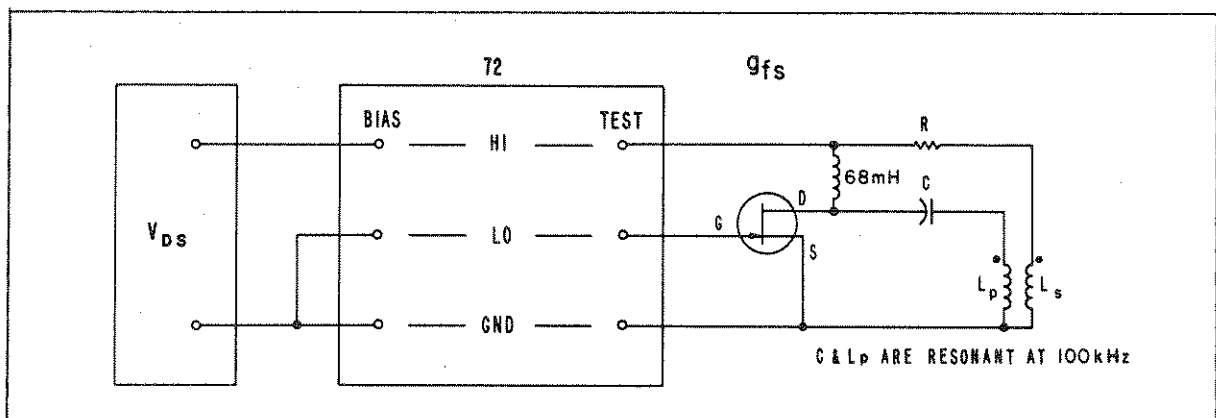

Figure 2-5. Transistor Transconductance Measurement
D. Forward Transconductance (g_{fs}). See Figure 2-5. The 72C is calibrated for an input current of $+je_{g\omega}C$, where C is the full-scale value of capacitance for any given range. Connecting the gate of a unipolar transistor to the LO TEST terminal will, by definition, generate a drain current of $e_g g_{fs}$, provided that the external drain-circuit impedance
A network is needed that presents a low impedance to the drain, and that provides the necessary phase shift of +90 degrees. The circuit shown in Figure 2-5 satisfies these conditions. The resistor, R, is the calibrating resistor for the full-scale value of g_{fs} . Its value is readily derived. The instrument is calibrated for a high-terminal current of: